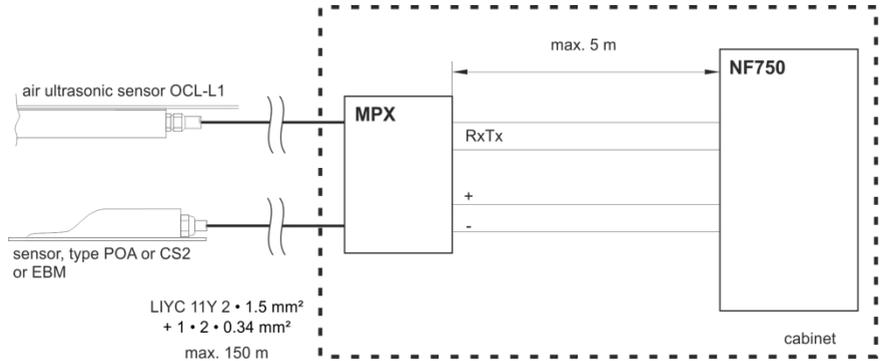

Fig. 13-1 Connection velocity sensor – MPX in cabinet
- 150 meters (see Fig. 13-1)
The maximum cable length in this case is 5 m (see Fig. 13-1).
To connect cables observe the notes in chapter "13.1 Connection cable" as well as Fig. 13-1 to Fig. 13-5.